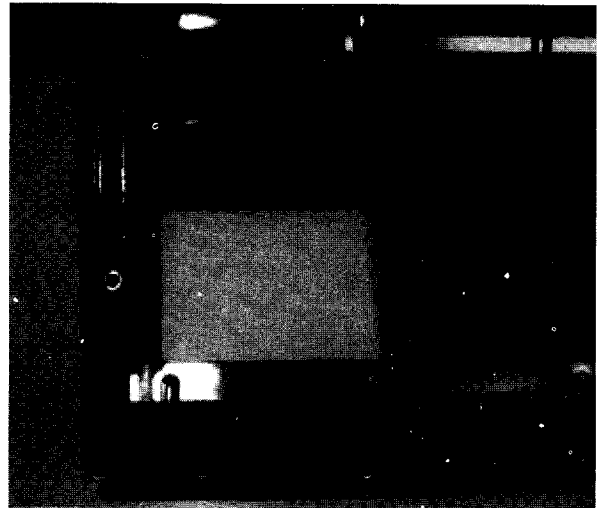

Figure 9
- 8. Visually inspect for the right side of the heater housing for a .187" hole. Figure 9.